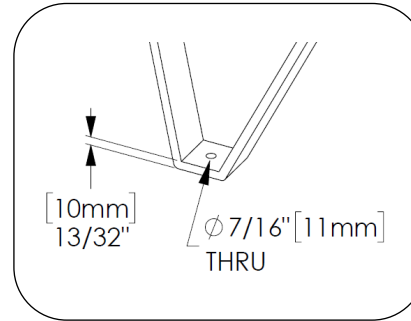

Fig. 1 – Surface mount tab detail
5. Drill holes according to anchor manufacturer's recommendations and clear holes of debris. Refer to Fig. 1 for anchor sizing guidelines.